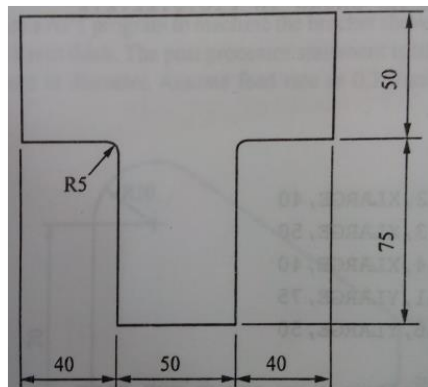

Figure 2
- (b) Write APT geometry and motion commands to machine the component shown in figure 2. Assume diameter of milling cutter used as 10 mm, spindle speed as 800 rpm and feed rate as 240 mm/min. **07**